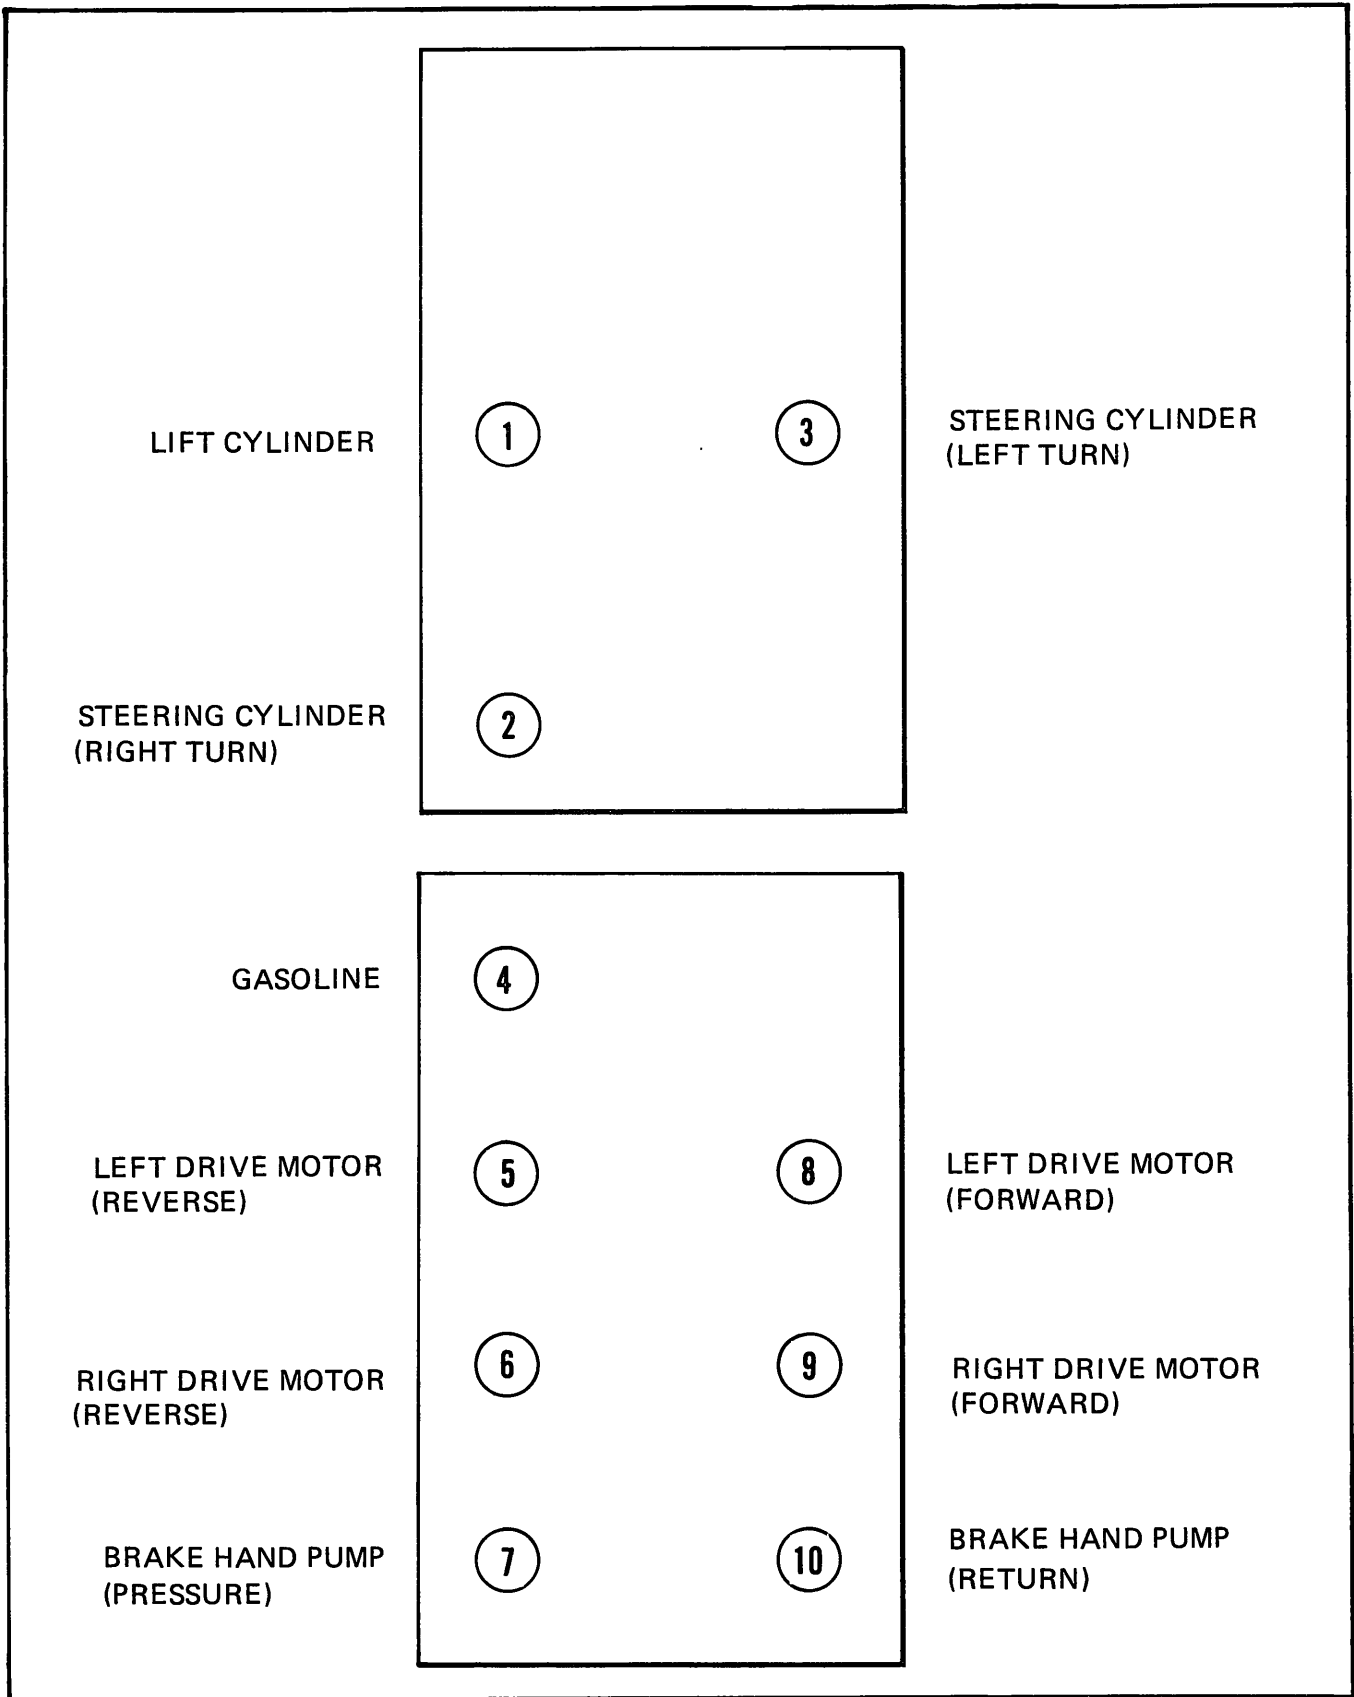
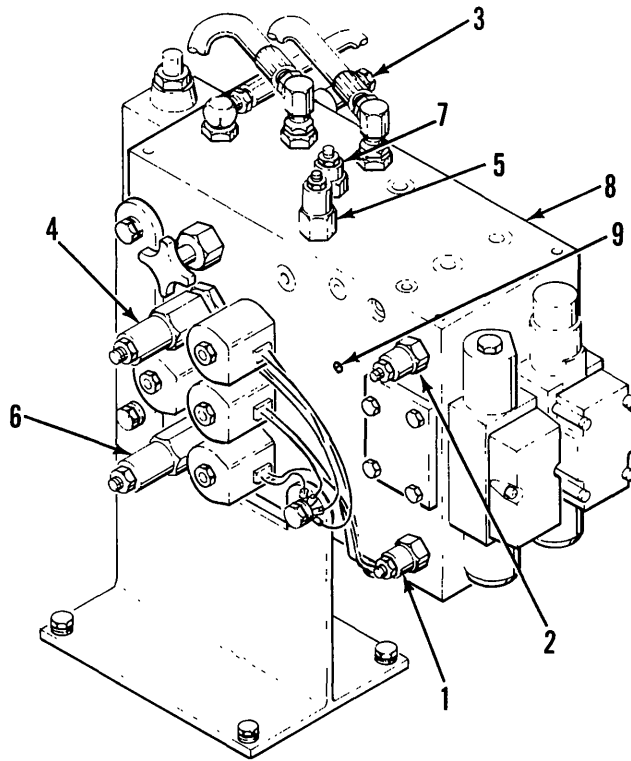

Figure 5-5. Power Module Junction Hose Orientation
Figure 5-6. Hydraulic Pressure Adjustment
(1) Refer to Figure 5-5 and disconnect the lift cylinder hose (1) and install a flow meter, pressure gage and needle valve test set with a hose to return the oil to the hydraulic reservoir.
(2) Operate the engine or electric motor 10 to 15 minutes to warm the oil.
(3) Refer to Figure 5-6 and loosen the locknut on the lift circuit relief valve (4).
(4) Screw the adjusting screw IN until it bottoms, to increase that valve's pressure setting high enough to render that valve inoperative, causing the main relief valve (5) to open first.
(5) Position the mode switch to LIFT.
(6) Position the lift switch to UP and hold it there.
(1) Remove the gauge port plug (9, Figure 5-6) and install a 3000 psi pressure gauge, or if the main relief valve has just been adjusted, leave the test set connected to the power module but remove the return line hose from the test set and connect the test set to the hose leading to the lift cylinder.
- (2) Operate the engine or electric motor 10 to 15 minutes to warm the hydraulic oil.
- (3) Position a 1500 lb. load centered on the platform.
- (4) Position the mode switch to LIFT.
- (5) Position the lift switch to UP and hold it there and observe the pressure gauge.
- (6) Loosen the locknut on the lift circuit relief valve (4, Figure 5-6) and screw the adjusting screw OUT to lower the pressure setting to 2000 psi.
- (1) Disconnect the hydraulic hose (3, Figure 5-5) to the left steer cylinder at the power module junction and install a flow meter, pressure gauge and needle valve test set. Attach the disconnected hose to the other end of the test set to complete the circuit.
- (3) Position the mode switch to DRIVE.
(4) Position the steer switch to LEFT and hold it there. Observe the pressure gauge as the steer cylinder bottoms.
(5) The gauge should read 1000 psi with the cylinder bottomed. If not, loosen the locknut on the steering relief valve (3, Figure 5-6).
(6) Back the adjustment screw OUT until the pressure drops to 900 psi then slowly turn the screw IN to raise the pressure to 1000 psi. Lock the screw with the locknut.
(7) Release the steer switch, shut down the engine or electric motor and remove the test set from the steering circuit.
(8) Reconnect the steer cylinder hose and operate the steering system to expel trapped air and check for leaks.
(3) Remove the adjusting caps from the counterbalance valves (1 and 2, Figure 5-6).
(4) Operate the engine or electric motor 10 to 15 minutes to warm the hydraulic oil.
(5) Position the mode switch to DRIVE.
(6) Position the joystick to FORWARD.
(7) Close the needle valve on the brake hose.
(8) Adjust the REVERSE counterbalance valve (2, Figure 5-6) by turning the adjustment screw OUT until the pressure gauge indicates 1000 psi then slowly turn the screw IN until the gauge indicates 500 psi. Lock adjustment with the locking cap.
(9) Position the joystick control to REVERSE.
(10) Adjust the FORWARD counterbalance valve by turning the adjustment screw OUT to achieve 1000 psi then slowly turn the screw IN to reach 500 psi. Lock the adjustment with the lock cap.
(11) Return the joystick to neutral.
(12) Reconnect the hoses to the drive motors.
(13) Remove the gauge and needle valve from the brake circuit and reconnect the hose to the brake cylinder. Bleed the brake cylinder of trapped air.